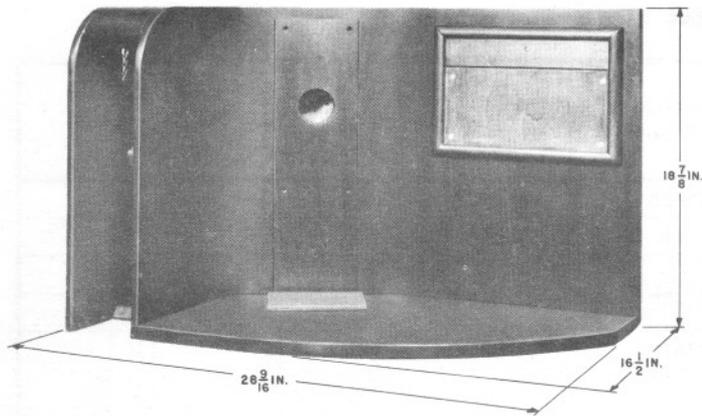

Fig. 4 - 19-type Shelf
6.01 The 19-type shelf combines a coin-collector mounting, a compartment for a directory, and a wide shelf for writing, placing handbags, etc (see Fig. 4).